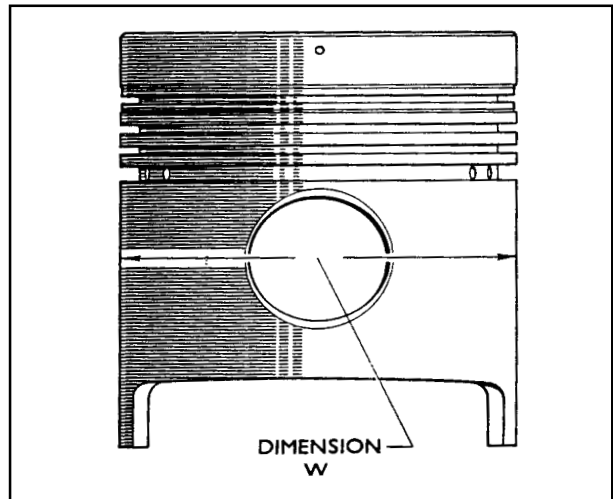

Figure 24
- the "W" diameter of the piston to be fitted Figure 24.
The exact finished bore size can be determined, by measuring the diameter of the piston at right Figure 24) then add to this dimension the appropriate piston clearance as shown in specifications.